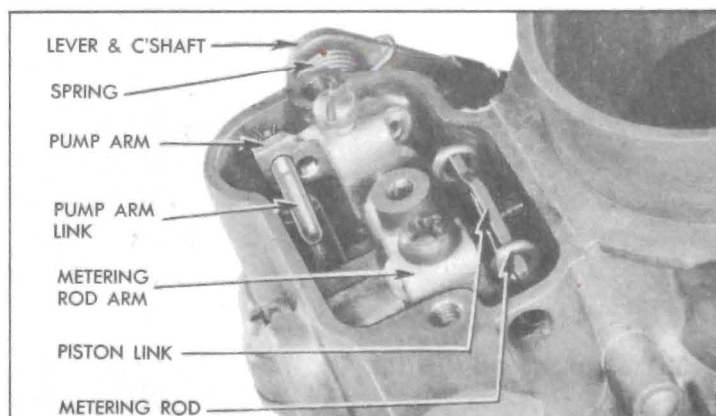

Figure 3-32—Metering Rod and Pump Operating Parts
5. Remove pump rod spring clips and pump rod. Remove dust cover. Rotate eyes of metering rods off pins on vacuumer piston link and lift rods out, using care to avoid bending them. See figure 3-32.
6. Loosen set screws in metering rod arm and pump arm. Pull countershaft and spring out, removing arms at the same time. Leave pump arm link attached to arm. See figure 3-32.